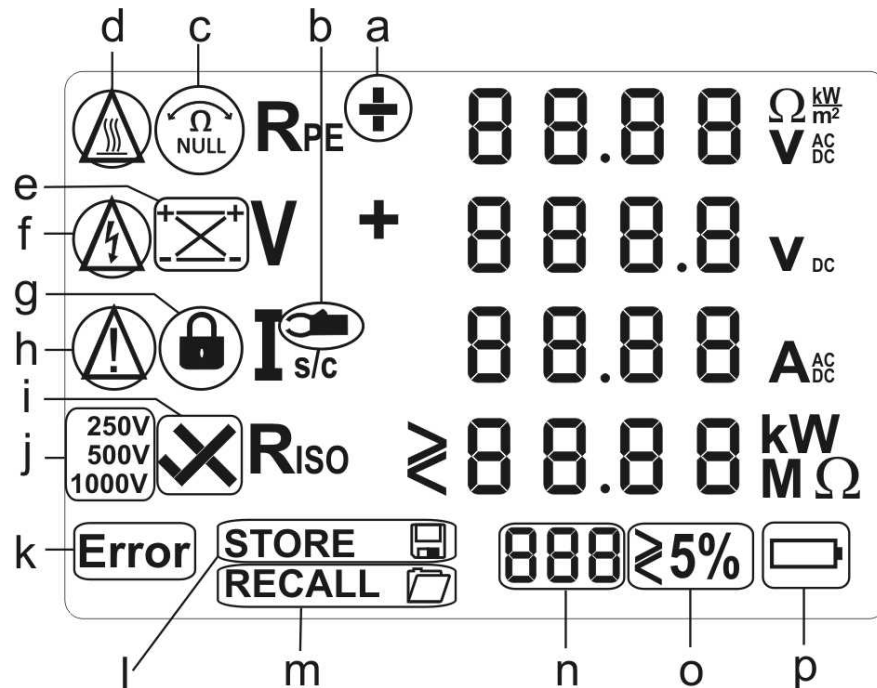

Figure 3 LCD display icons
6. Press the Viso button until the clamp icon (figure 3, icon b) appears on the LCD.